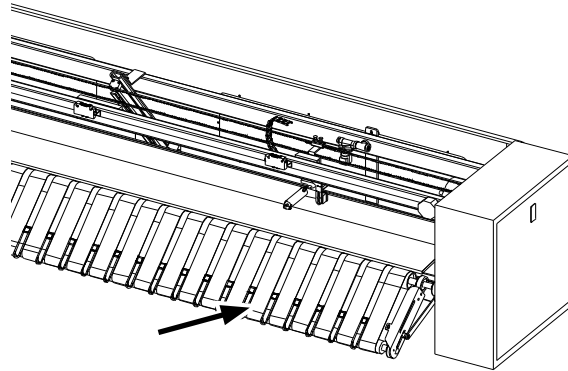

Figure 7-18: Measure the O.P.L. discharge ribbon speed.
4. Use a hand-held speedometer to determine the speed of the O.P.L. discharge ribbons (Figure 7-18). Make sure to hold the wheel over the ribbon against the turning roll.
11. Use a hand-held speedometer to determine the speed of the O.P.L. discharge ribbons (Figure 7-18). Make sure to hold the wheel over the ribbon against the turning roll.
19. Use a hand-held speedometer to determine the speed of the O.P.L. discharge ribbons (Figure 7-18). Make sure to hold the wheel over the ribbon against the turning roll.